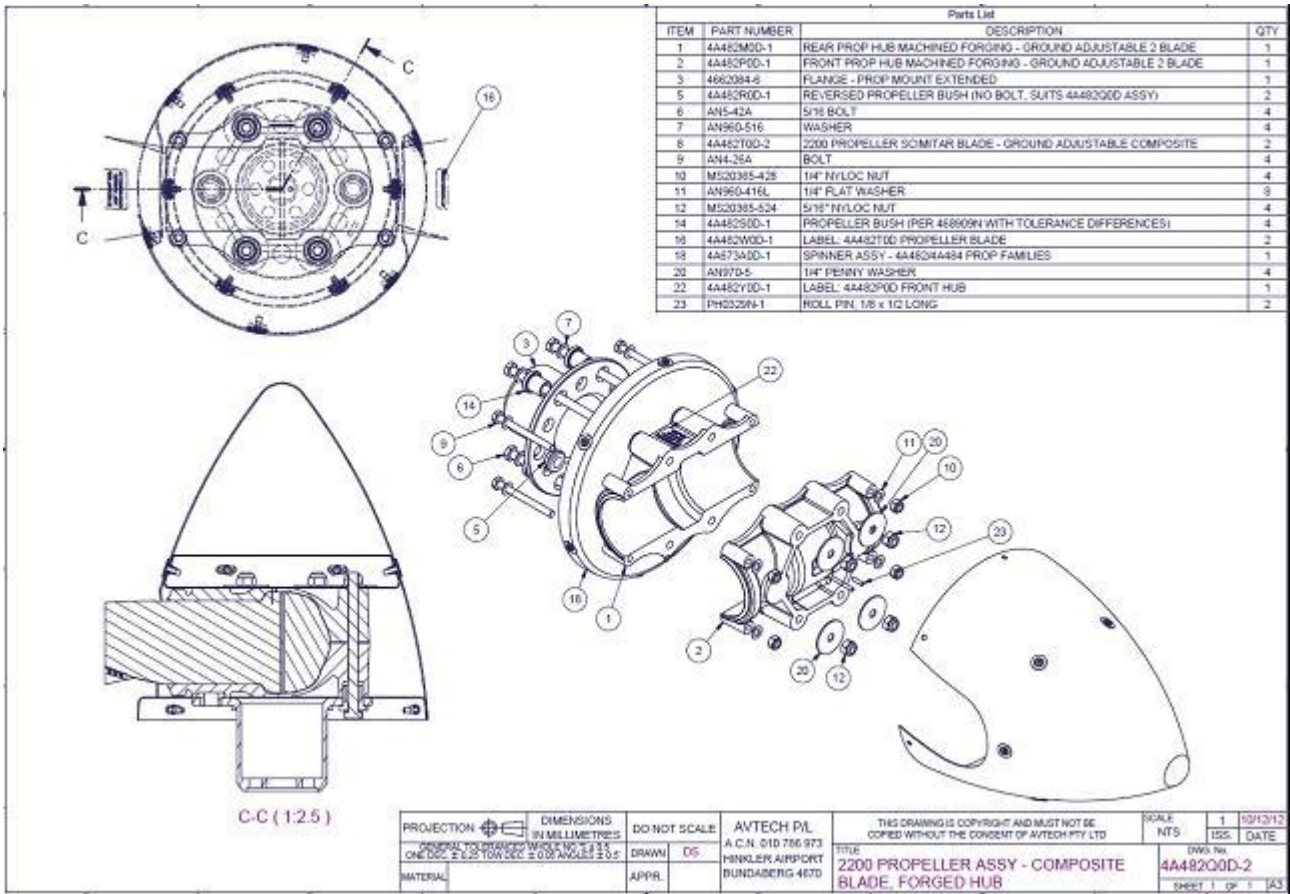

Figure 9 – Typical Propeller Installation
Figure 9 shows a typical propeller installation.
1. Figure 9 shows typical propeller installation details.